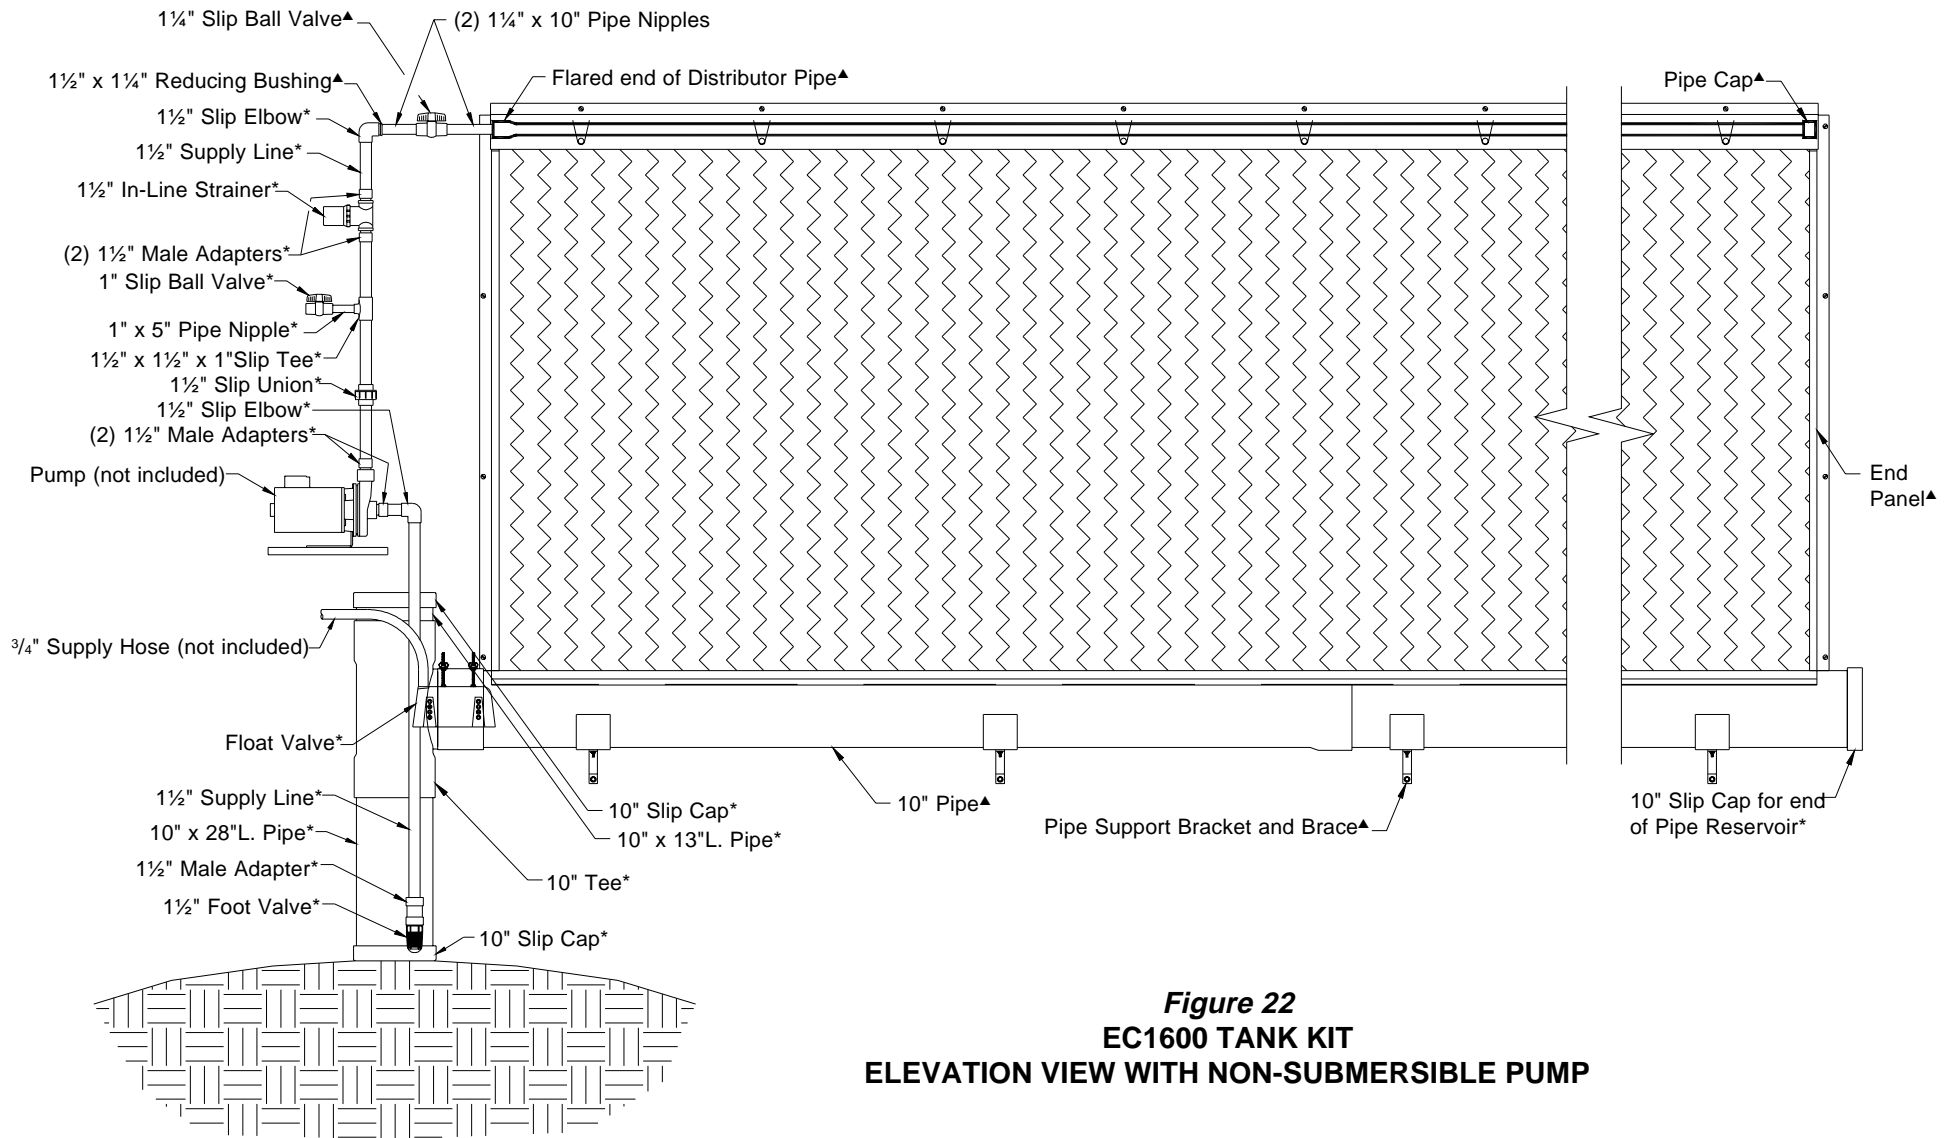

Figure 22
- 2) Complete water supply piping from pump to cooling. **See Figure 22, 23 or 24 (on pages 14, 15 and 16).**